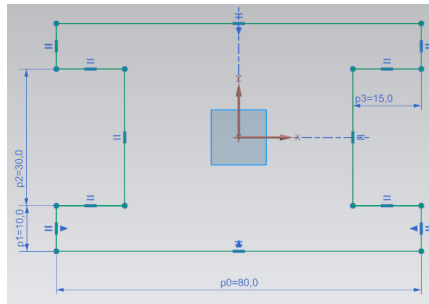

Figure 3-26 The outer profile after adding required dimensions
1. Click on line 1; the current dimension of line 1 is attached to the cursor. Now, you need to place the dimension at the required location. Click below the line 1 to place the dimension, refer to Figure 3-26. As you place the dimension, a dynamic edit box is displayed. Enter **80** in the edit box and press Enter. Next, choose the **Fit** tool from the **Operation** group of the **View** tab.
5. Exit the **Rapid Dimension** tool by pressing the Esc key and then drag the dimensions to place them properly around the sketch, refer to Figure 3-26.